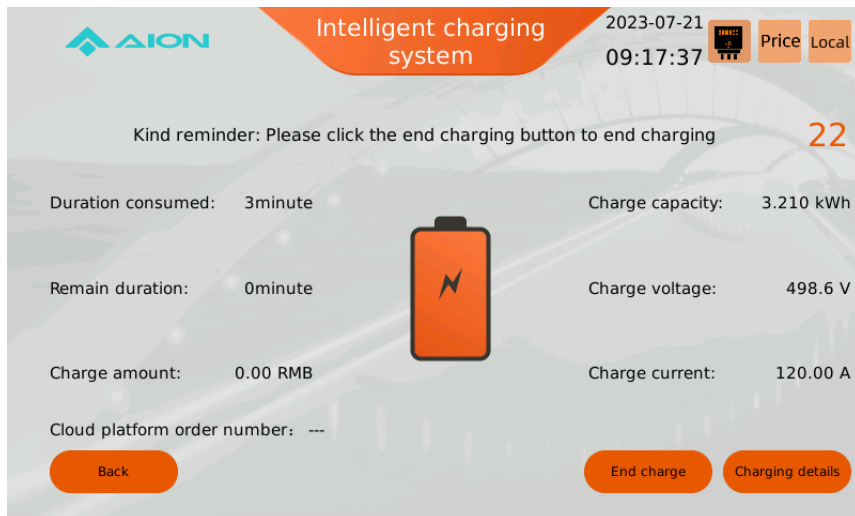

Figure 3.5 Information in charging
During the charging process, if the user wants to check the current charging situation, can click the "Charging" status of the interface charging terminal (A/B plug) to check the current charging situation, such as the charged time, charging capacity, charging amount, electricity charge and other information, as shown in Figure 3.5.
- 3、Swipe card charging stop: If the user wants to actively end the charge, can click the corresponding charging terminal (A/B plug) "Charging" state, make the card close to the card reader, and then stop the charge. The interface for stopping the charge and swiping card is shown in Figure 3.5 above.